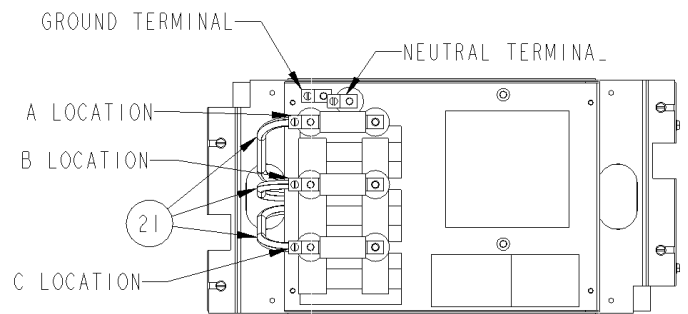

Figure 9. Installing the cable connections to the TVSS.
6. Make cable connections to the TVSS. Trim the cable assemblies to the minimum required and strip 1/2 inch from the end of the cable. Connect the cable assemblies to the lugs provided in the TVSS unit and tighten the lug screws to 110 in-lb. Insure that the A location is connected to the top lug, the B location (if required) to the middle lug, and the C location to the bottom lug, as shown in Figure 9.
Measure the length required for the ground and neutral cables and cut from the cable [1]. Strip 1/2 inch from the end of the cable and connect to the TVSS ground and neutral lugs and panel lugs, as shown in Figure 9. Tighten the lug screws to 110 in-lb. Reinstall the plastic cover on the TVSS.